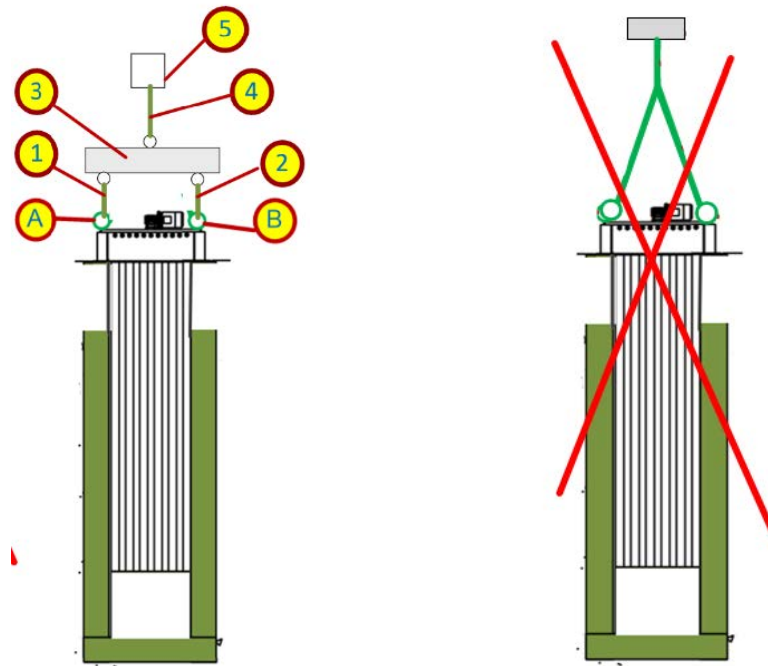

Figure 4-3: Configuration for lifting
- Note that the **OCUVS** Unit is to be installed vertically (see **Figure 4-3**).